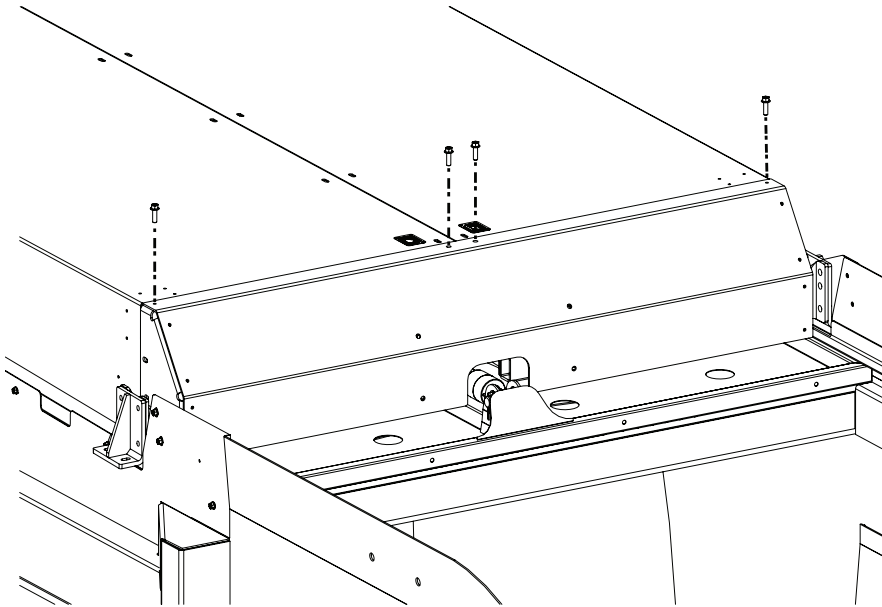

Figure 2
4. Remove and discard the four bolts from the top of the CNG cover system (Figure 2).